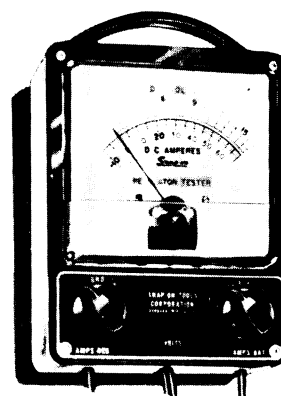

Fig. 3-36 Typical electric circuit ammeter
**Ammeter.** Ammeters are used to measure generator or alternator output, starter drain, or current flow to a specific component. They are connected in series for measurement. A meter scale of 50 amperes will handle most bike applications. Some meters have induction pickups that do not require direct connection into the circuit (Fig. 3-36).